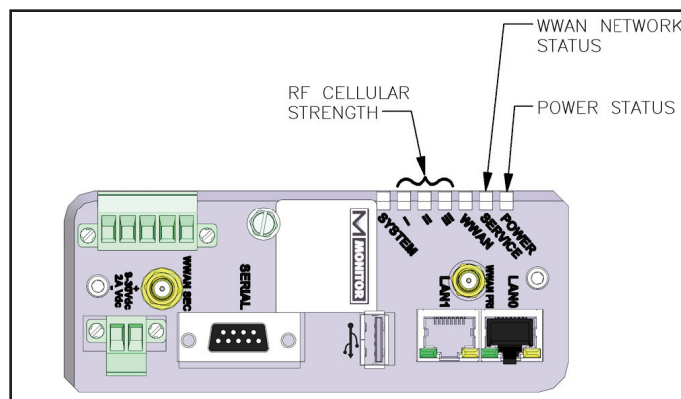

Figure 4 - Router Status LED's
3.2 Status LED's on Router (See Figure 4)